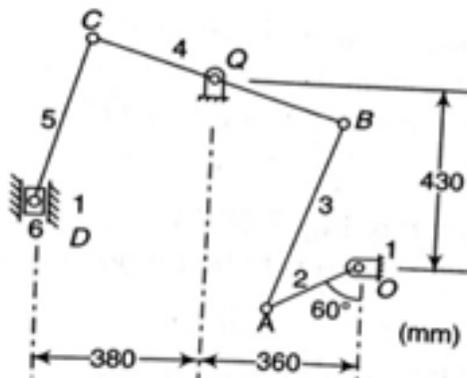

Figure: 2
4. Figure 2 shows a six link mechanism. The dimensions of the links are  $OA=220$ mm,  $AB=485$ mm,  $BQ=310$ mm,  $BC=590$ mm and  $CD=400$ mm. For the position when the crank  $OA$  makes an angle of  $60^\circ$  with vertical, find the velocity of the slider  $D$ . The crank  $OA$  rotates clockwise at 150rpm. [15]